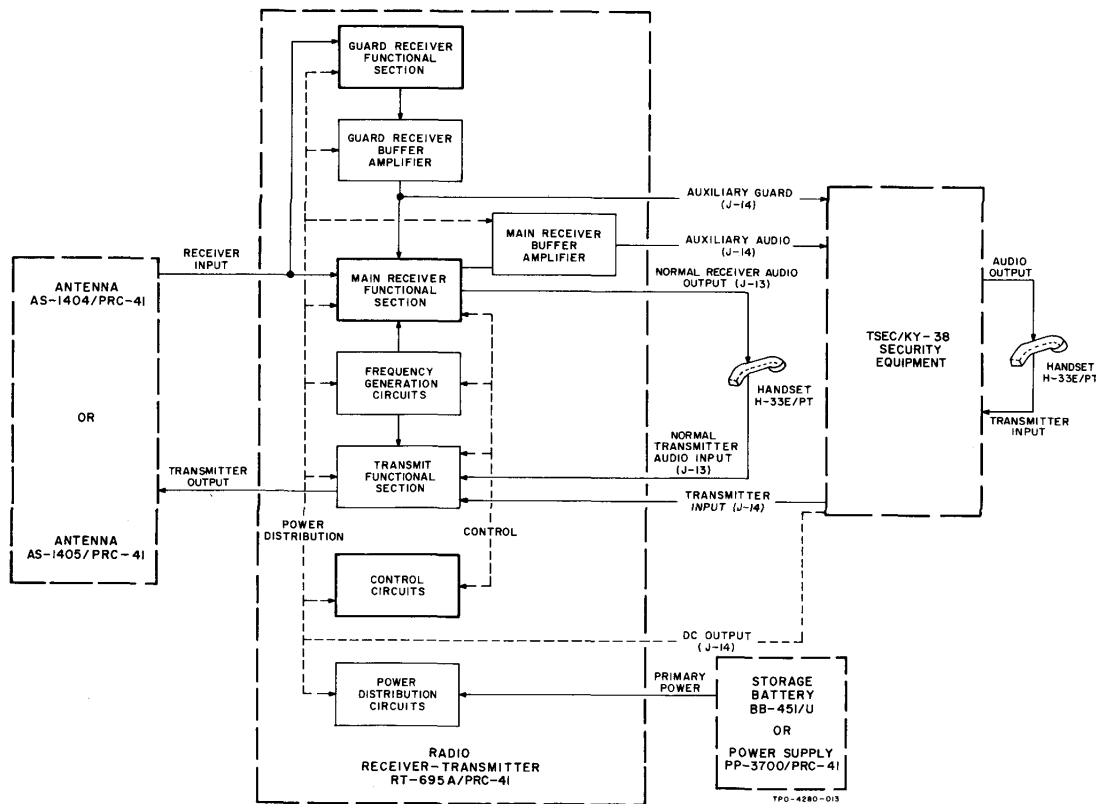

Figure 4-3. Radio Set AN/PRC-41A, Overall Functional Block Diagram
a. RADIO SET AN/PRC-41A.-Radio Receiver-Transmitter RT-695A/PRC-41 is composed of eight plug-in modules and a main chassis. See figure 4-1 for relative module location and identification. The RT-695A/PRC-41 is a receiver-transmitter that provides radiotelephone (A3) communication from ground to air and ground to ground. Refer to figure 4-3, a functional block diagram. There are 1750 channels available, spaced 100 kHz apart, in the range of 225.0 to 399.9MHz. The operator can select each
(1) Since the units and accessories of AN/ PRC-41A are not electronic in nature, with the exception of Radio Receiver-Transmitter RT-695A/ PRC -41 and Power Supply PP-3700/PRC-41, the description and test information of this section is limited to RT-695A/PRC-41 and PP-3700/PRC-41. It may be necessary to check an antenna or cable assembly for continuity; however, damage to masts, mountings, harness, cases, etc. is obvious from visual inspection. No test information for these items is contained in this section. The RT-695A/ PRC-41 functions in three ways: it provides transmission and reception on 1750 channels in the 225.0-to 399.9-MHz range, and reception on a single frequency, 243.0 MHz, known as the guard channel. The functional sections are therefore identified as the main receiver, guard receiver, and transmitter. Refer to figure 4-3. Primary power, power distribution,